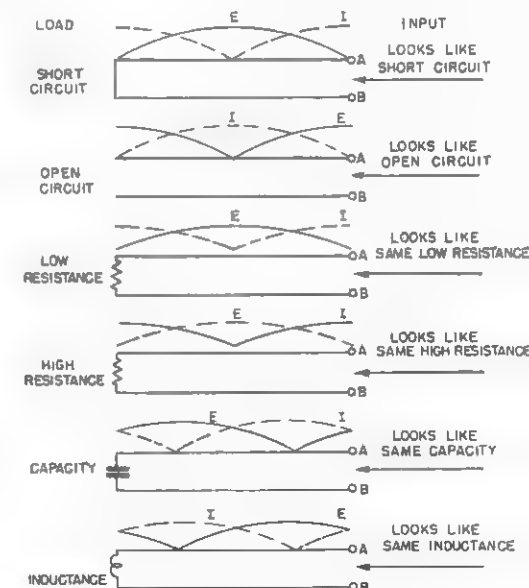

FIG 5 LOAD REPETITION BY A HALF WAVE SECTION
- (2) A half-wave section repeats the load. A half-wave section may be looked upon as being made up of two quarter-wave sections, so that the load is inverted by the first quarter-wave section and re-inverted to the original by the second quarter-wave sections. (See Fig. 5).